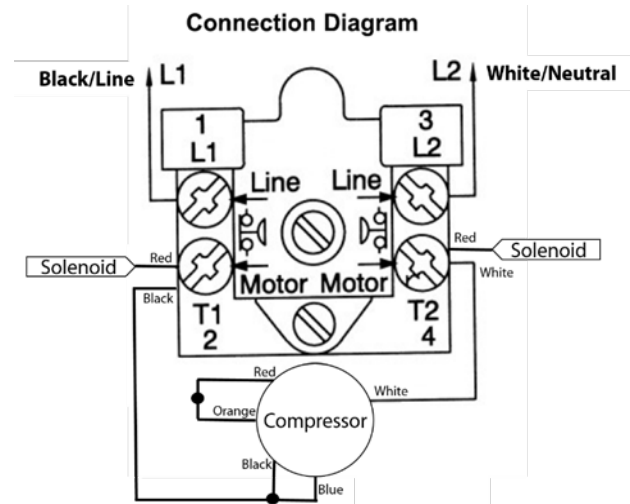
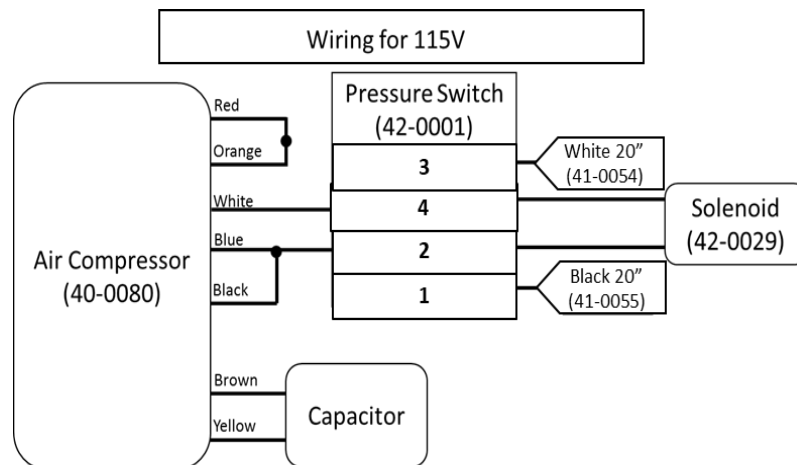

Fig. 8
Fig. 9
- 19 Remove the cap on the pressure switch and disconnect the black wire from terminal #1 and the white wire from terminal #3 on pressure switch (Fig. 8 and Fig. 9)